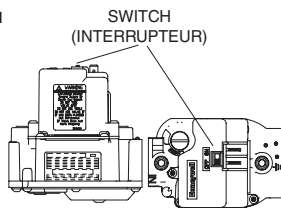

Figure 1
6. Move the gas control switch to the "OFF" position. (See Figure 1)
7. Wait five (5) minutes to clear out any gas. Then smell for gas, including near the floor. If you smell gas, STOP! Follow "B" in above information. If you don't smell gas, go to the next step.
8. Move the gas control switch to the "ON" position. (See Figure 1)
6. Réglez l'interrupteur de commande du gaz à la position "OFF". (voir Figure 1).
7. Attendre cinq (5) minutes pour s'assurer de la dissipation du gaz.
8. Réglez l'interrupteur de commande du gaz à la position "ON". (voir Figure 1).